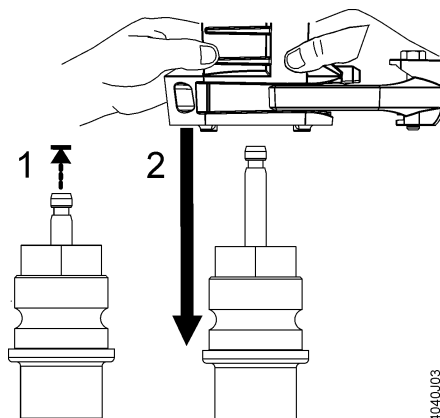

Figure 5.
3. Pull the valve stem to the fully extended position. Then, slide the actuator on the valve bonnet. See Figure 5.